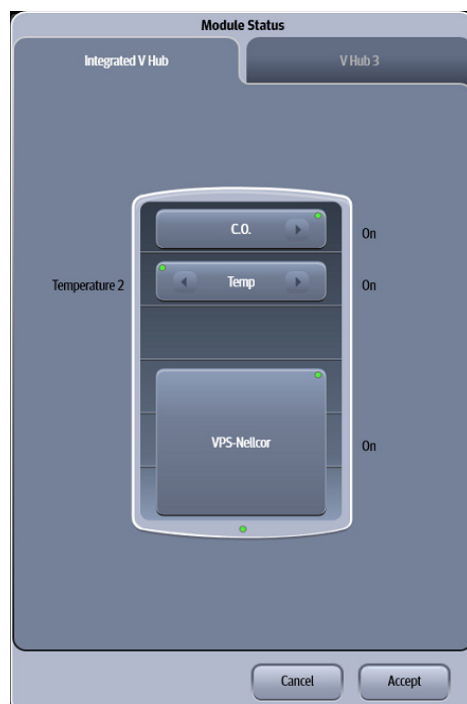

FIGURE 5-1 Example Module Status Dialog (configured Integrated V Hub and V Hub)
1. Select the  icon in the upper right corner of the Main Screen to open the Module Status dialog (as shown in FIGURE 5-1).
2. If needed, select the **Integrated V Hub** or **V Hub x** (x represents the V Hub number) tab to find the needed module (as shown in FIGURE 5-1).